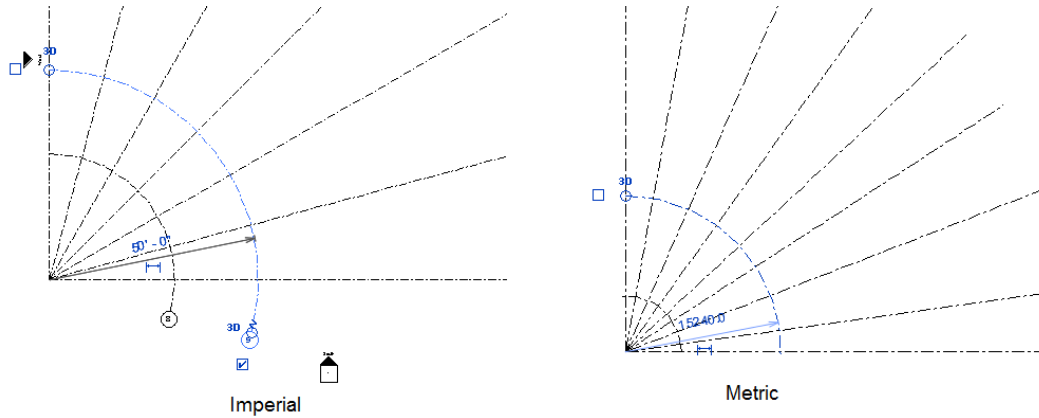

Figure 3-60 The curved grid lines created
19. Now, repeat steps 15 to 18 to create a curved grid line with a radial distance of **50'** (or **15240 mm** in Metric) from the start point of the first grid, refer to Figure 3-60.